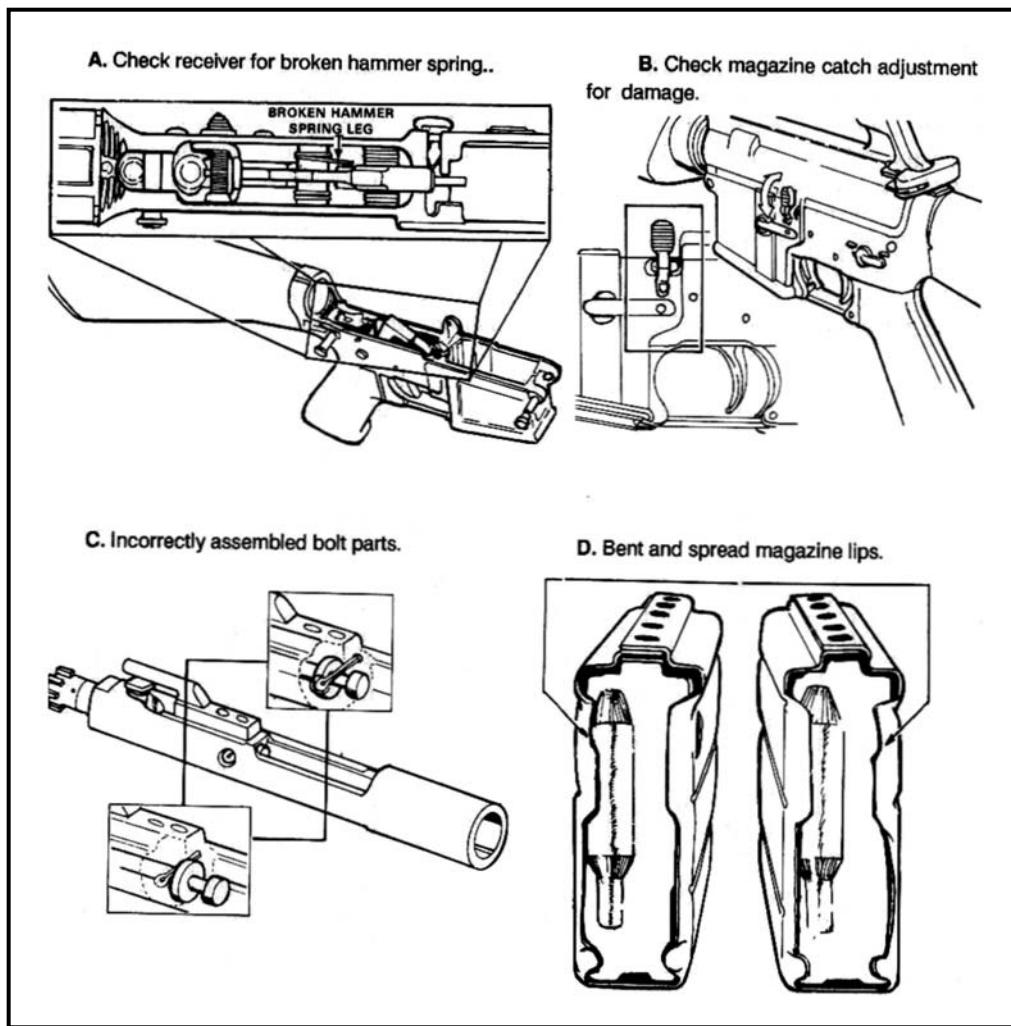

Figure 3-3. Other possible malfunctions.
(1) The bolt fails to remain in a rearward position after the last round in the magazine is fired. Check for a bad magazine or short recoil.
(2) The bolt fails to lock in the rearward position when the bolt catch has been engaged. Check bolt catch; turn in to unit armorer.
(3) The weapon fires two or more rounds when the trigger is pulled and the selection lever is in the SEMI position. This indicates a worn sear, cam, or disconnector. Turn in to armorer to repair and replace trigger group parts as required.
(4) The trigger fails to pull or return after release with the selector set in a firing position. This indicates that the trigger pin (A, Figure 3-3, page 3-6) has backed out of the receiver or the hammer spring is broken. Turn in to armorer to replace or repair.
(5) The magazine fails to lock into the magazine well (B, Figure 3-3). Check the magazine and magazine catch for damage. Turn in to armorer to adjust the catch; replace as required.
(6) Any part of the bolt carrier group fails to function (C, Figure 3-3). Check for incorrect assembly of components. Correctly clean and assemble the bolt carrier group, or replace damaged parts.
(7) The ammunition fails to feed from the magazine (D, Figure 3-3). Check for damaged magazine. A damaged magazine could cause repeated feeding failures and should be turned in to the armorer or exchanged.